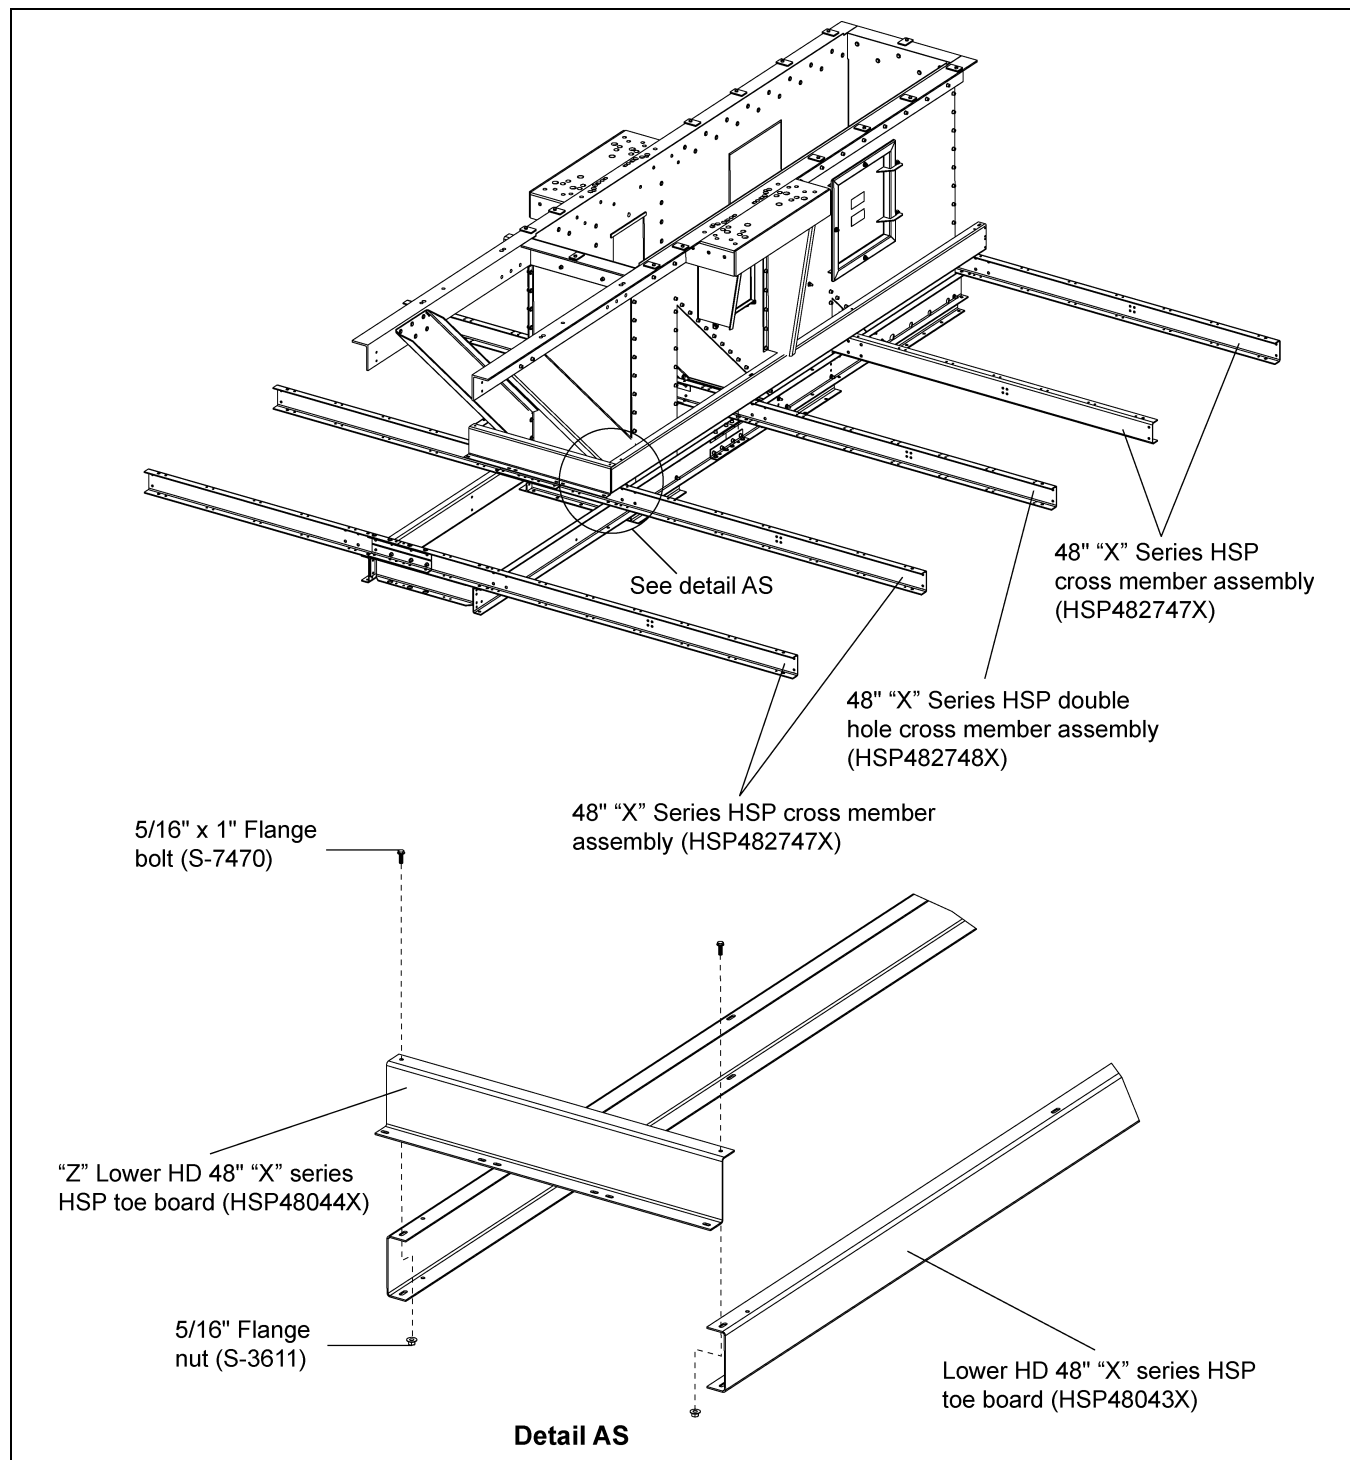

Figure 9G
2. Align toe boards with the cross channels as shown in Figure 9G.